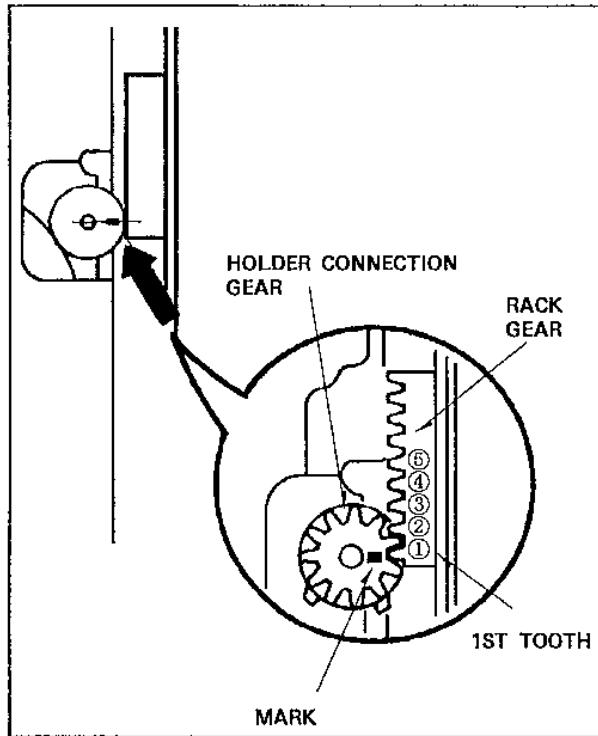

Fig.M49
- Install the cassette compartment (without cassette holder) to the mechanical chassis so that mark on the Holder Connection Gear should line up with first tooth of the Rack Gear as shown in Fig.M49.